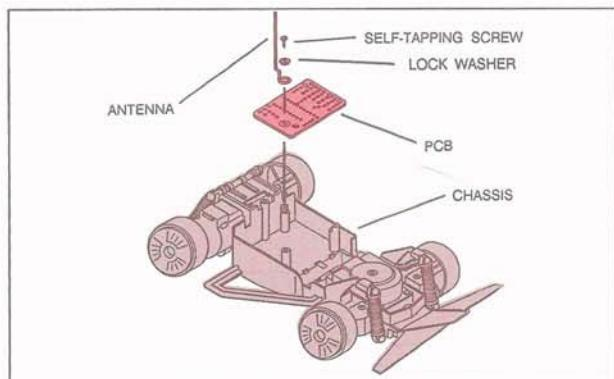

FIG. 82
Refer to Figures 82 through 85 for this procedure.
1. Mount the PC board (component side down) to the chassis as depicted in Fig. 82. Secure the PC board and the whip antenna by inserting an H1 self-tapping screw ($3.0\text{Ø} \times 8\text{mm}$) through the loop in the antenna, the hole in the PC board, and into the mounting post